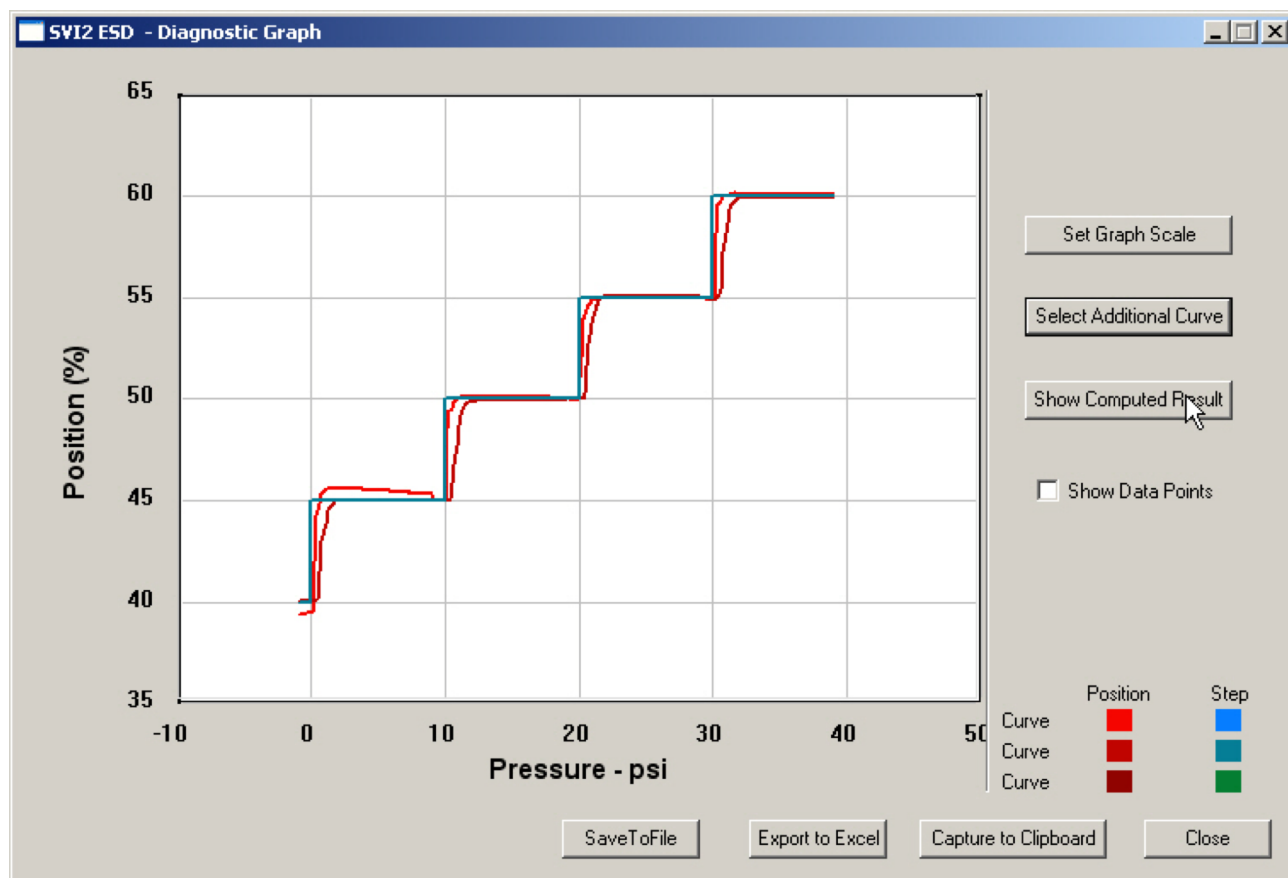

Figure 192 - Selecting Show Computed Result
- Click **Show Computed Result** (*Figure 192*).